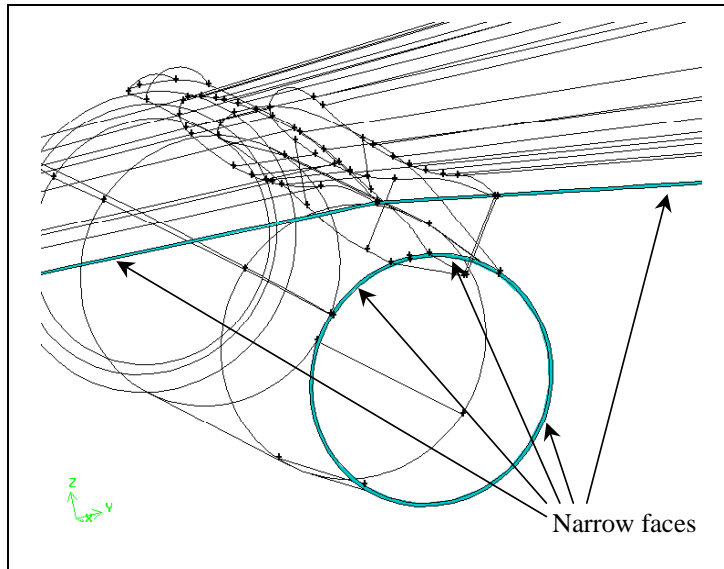

Figure 14-13: Five narrow faces on trailing edges of wing and nacelle
- c) Select the five narrow faces on the trailing edges of the wing and nacelle (see the shaded faces in Figure 14-13).